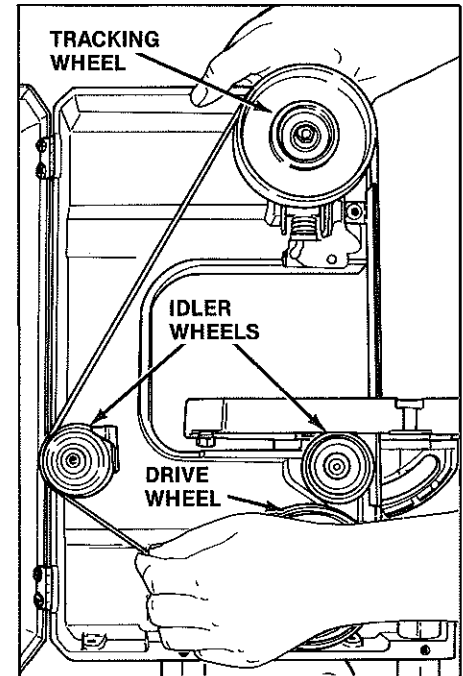
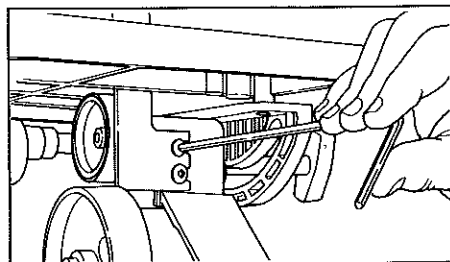
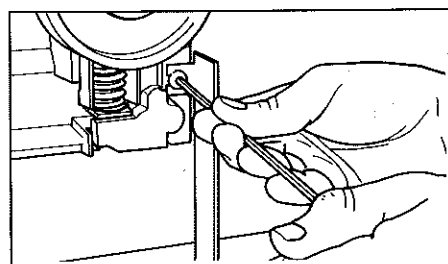
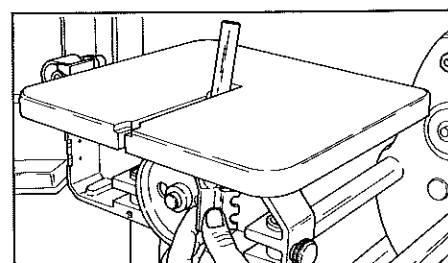

Figure 13. Press down on the tracking wheel to loosen the tension on the belt.
Figure 14. Loosen the flat or curved platen's base mounting screws.
Figure 15. Loosen the flat platen's top mounting screw.
Figure 16. Slide the curved platen down and out through the hole in the center of the table.
1. Remove the table leveling clamp (42 and 43) from the table (41).
2. Open the cover (1) by loosening the cover lock knob (39). Gently pull cover until the "S" clip (53) disengages.
3. Remove the belt. Loosen the tension on the belt by pressing down on the tracking wheel (6) with the palm of your hand. (See Figure 13.) Remove the belt from the drive wheel (25) and idler wheels (17). Slide the belt through the slot in the table.
a. If you are removing or changing the 1" or 1/2" **flat platen**, loosen the two screws (35) at the base of the platen (Figure 14) and one screw (35) at the top (Figure 15) with a 5/32" Allen wrench. Slide the platen sideways out through the table slot.
If you are removing or changing the 1/2" **curved platen**, loosen the two screws (35) at the base of the platen. (See Figure 14.) Slide the platen down through the hole in the center of the table. (See Figure 16.)
b. Choose the desired platen and slide it sideways through the table slot or up through the hole in the center of the table. Secure the platen to the frame with screws (35). When installing the curved platen, the top screw is not used. However, you must be sure to tighten the top screw against the frame.
5. **Install the belt** by placing it through the slot in the table, over the tracking wheel (6), then under the drive wheel (25). With the palm of your hand, push down on the tracking wheel (6), and place the belt onto the rear idler wheel (17). The belt is installed as shown in Figure 13. Belt tension is set automatically when the tracking wheel is released.